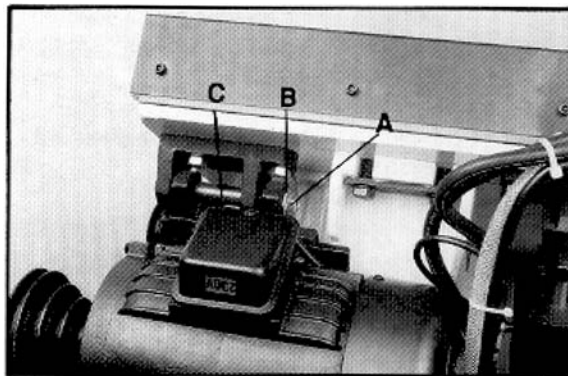

Figure 2
2. Remove nut (A, Figure 2) and washer (B, Figure 2) from the motor support shaft. Note: Picture shows motor already in place.
3. Remove shaft (C, Figure 2) from the motor mount bracket.